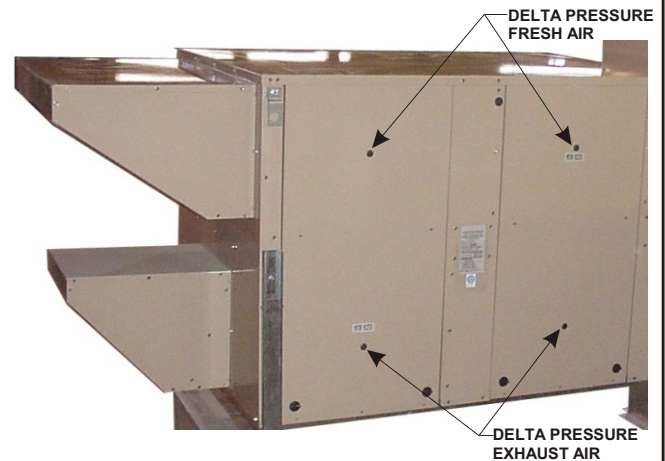

Figure 13
- 6- Check and seal, if necessary, along the edges where the ERS meets the rooftop unit to ensure there is no air leakage. Final assembly should resemble **Figure 13**.
Blower speed selection is accomplished by adjusting the motor sheave on both fresh air and exhaust air blowers. All blowers are factory set in closed position for maximum airflow. To determine air flow setting, external static pressure readings will need to be read across the ERS . **Reference Table 1.** For location to take pressure readings. **See Figure 13.**